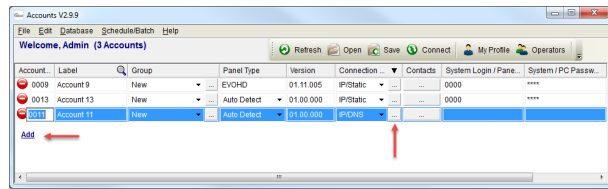

Figure 6 – Accounts Window
- Select the **Additional Info** box in the **Connection** window (see Fig. 6 above).